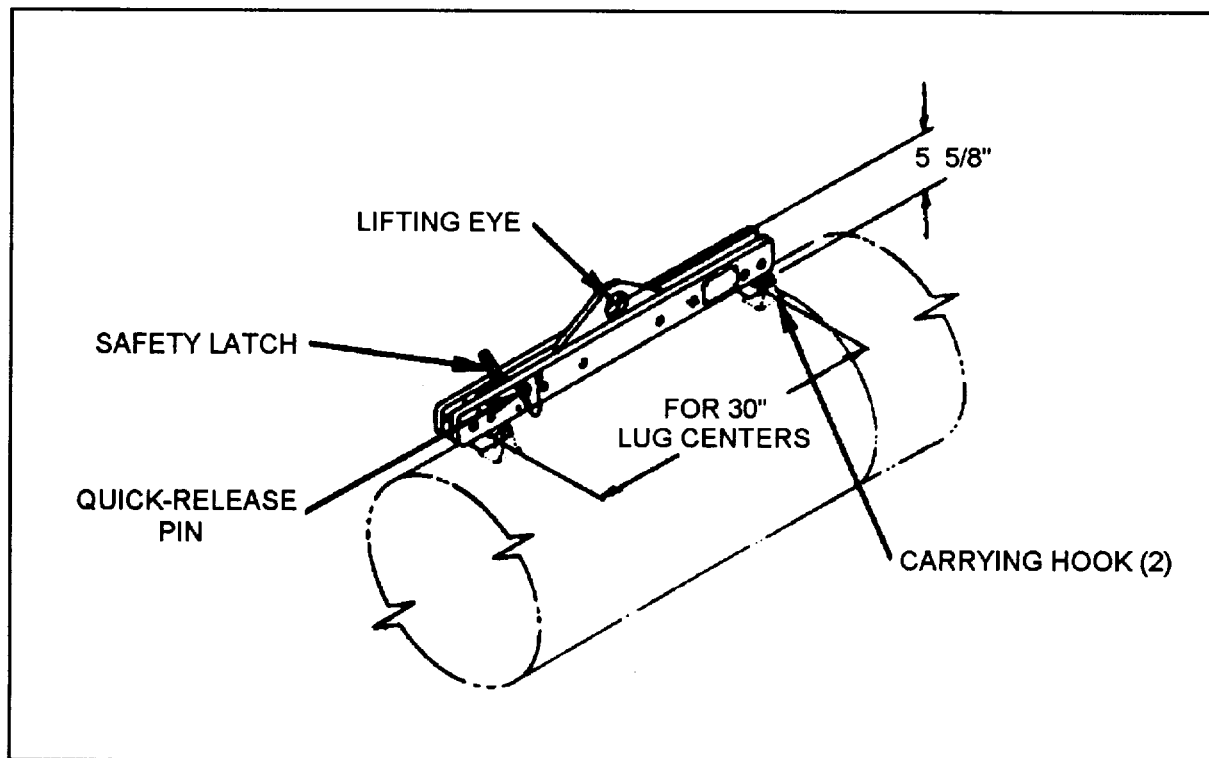

Figure 2-11.—Mk 55 Mod 1 weapon carrier.
**MK 55 MOD 1 WEAPON CARRIER.**— The Mk 55 Mod 1 weapon carrier is used to handle mines with suspension lugs spaced 30 inches apart. The carrier, shown in figure 2-11, has a lifting capacity of 3,000 pounds. It consists of two aluminum side plates and two stationary steel hooks; one hook has a spring-loaded steel safety latch. A quick-release pin secures the latch in the locked position. A lifting eye is centered on the top of the carrier.